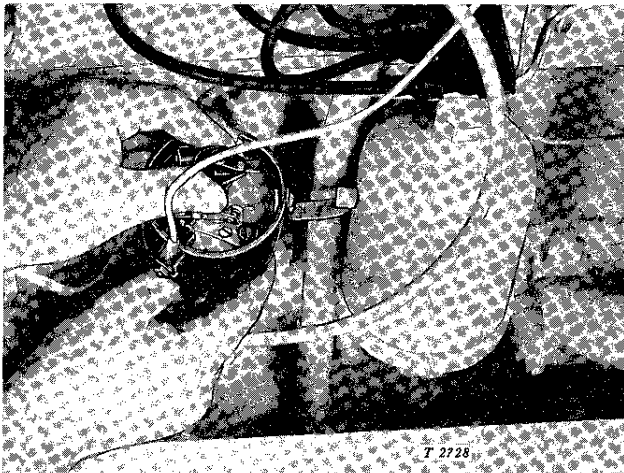

Fig. 40-10-8 -- Timing Delco-Remy Distributor
4. On Delco-Remy or Autolite distributors, remove distributor cap and dust cover. Install distributor rotor and turn it counterclockwise as far as possible. While holding rotor in this position, rotate distributor body slowly until points are just beginning to open (Fig. 40-10-8).